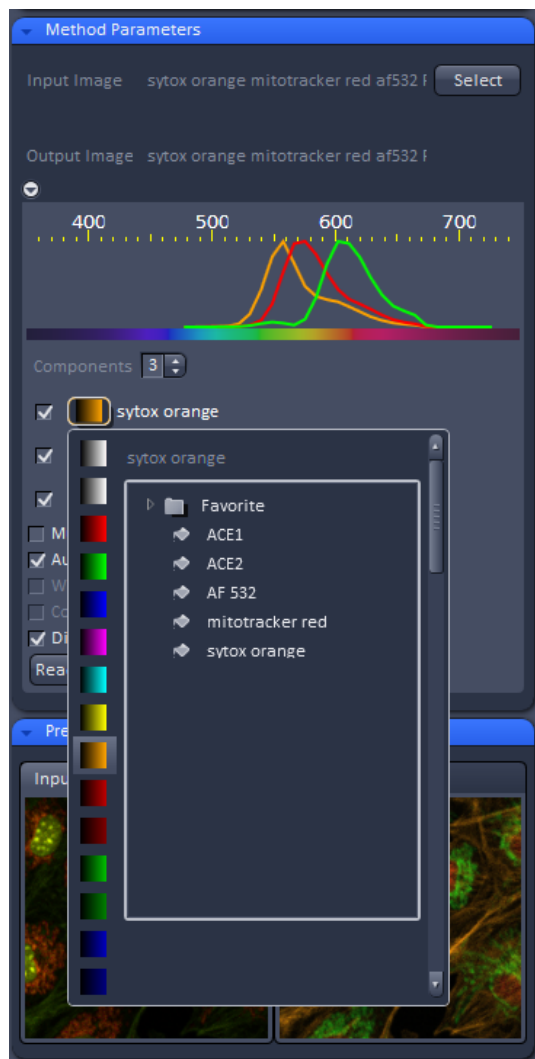

Fig. 273 Spectra and LUT assignment
- Select the sample-specific fluorescence dye reference spectra from the Spectra Database (Fig. 273).